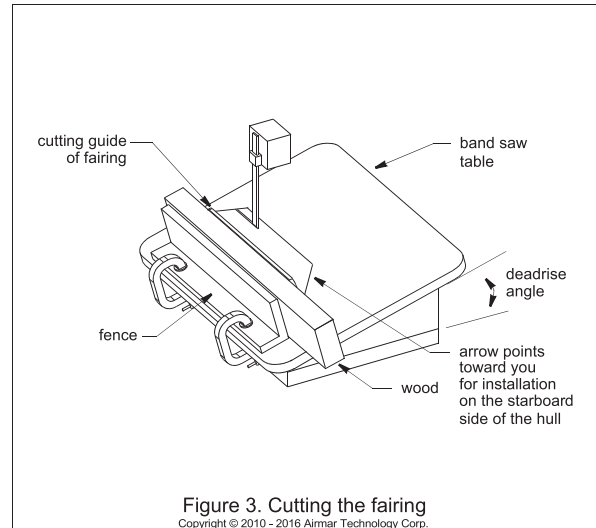

Figure 3. Cutting the fairing
- Measure the deadrise angle of the hull at the selected mounting location using an angle finder or a digital level (Figure 3).
- Adjust the cutting fence, so the fairing will be cut in about two equal parts (Figure 3). *The section that will become the fairing must be a minimum of 7 mm (9/32") at its thinnest dimension.* This number corresponds to the flange on the fairing.